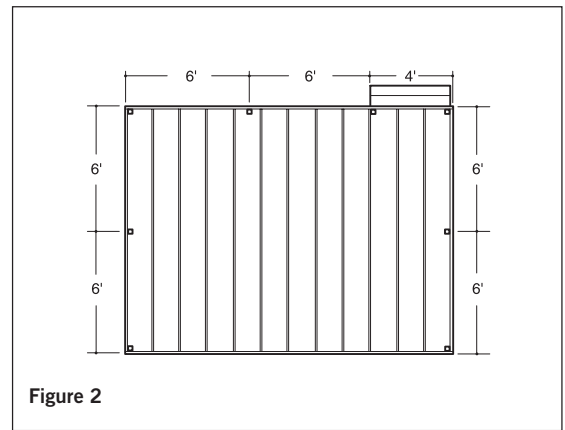

Figure 2
Step 1 Determine the number of railing posts needed for your deck. Post spacing is 6' on-center. Example: A 12x16 deck attached to a building with a 4' access opening on one side will require a total of eight posts (Figure 2).